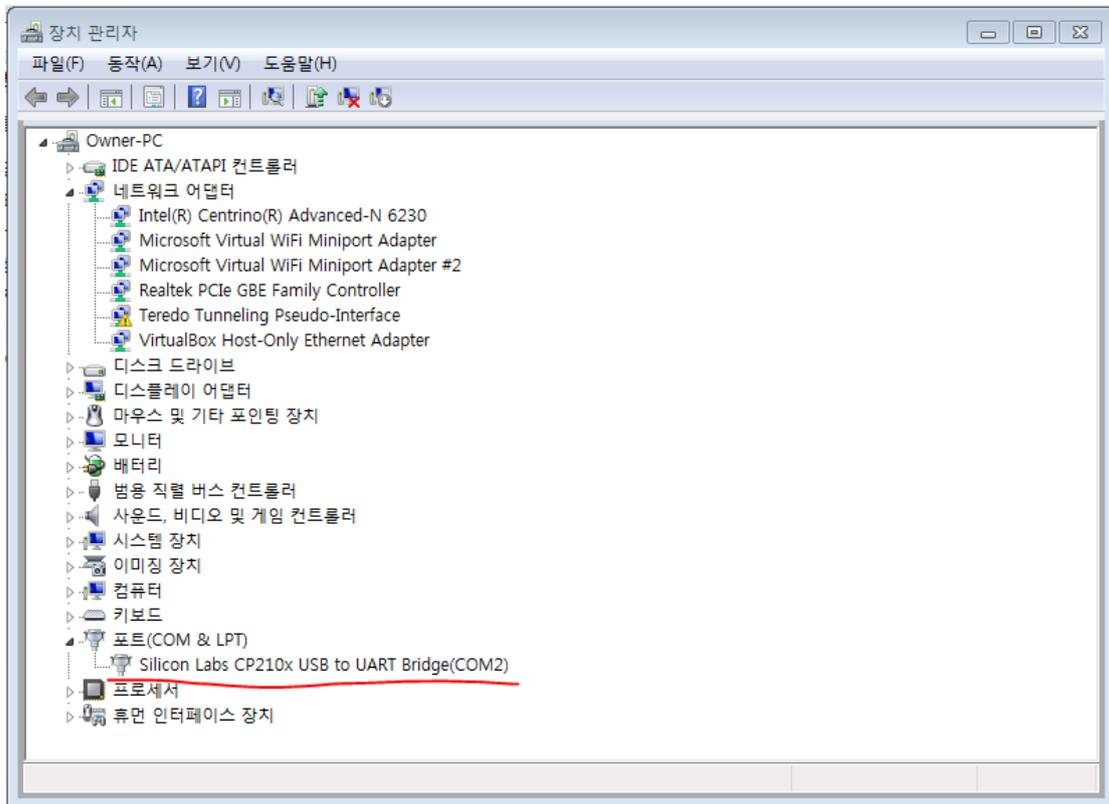
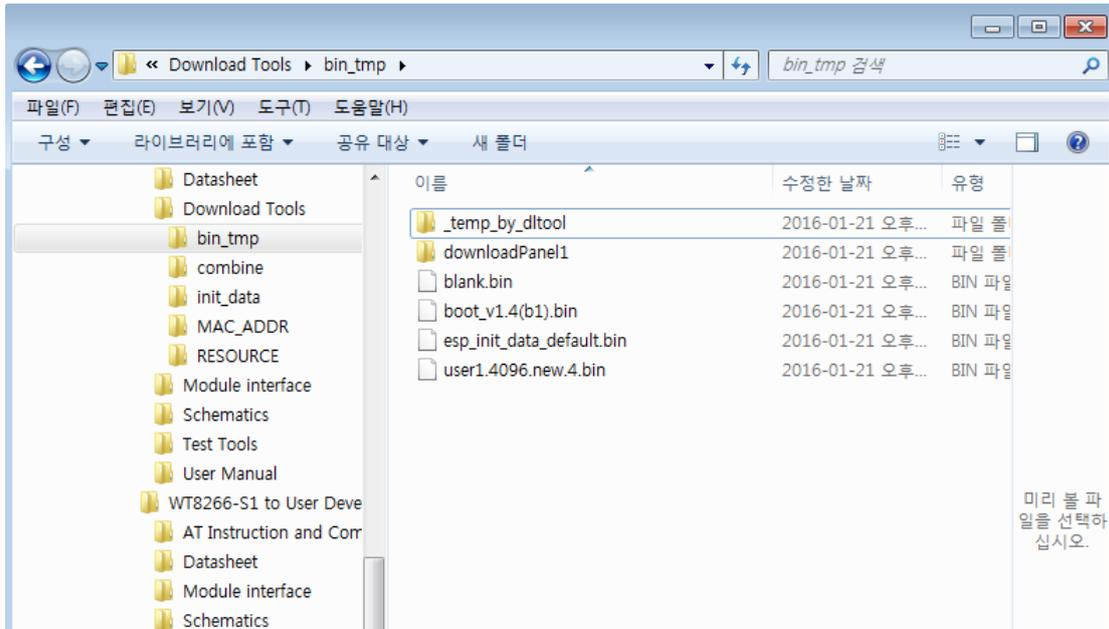

Figure 3-3 Device Management - Serial Port
Figure 3-4 Executable File of Xiao e WiFi
3、 Check the serial port on PC side, open the "Xiao 'e WiFi' burn tool V1.2" software and set up the serial port, please refer to figure 3-3 and figure 3-4: